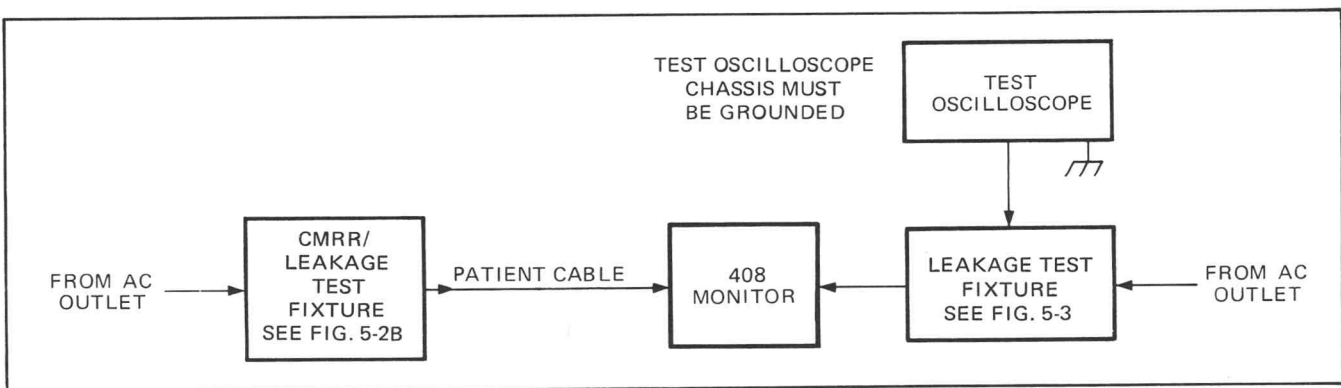

Fig. 5-11. Alternative method to check leakage current.
**ALTERNATIVE METHOD.** Set up the monitor and the test fixtures as shown in Fig. 5-11.